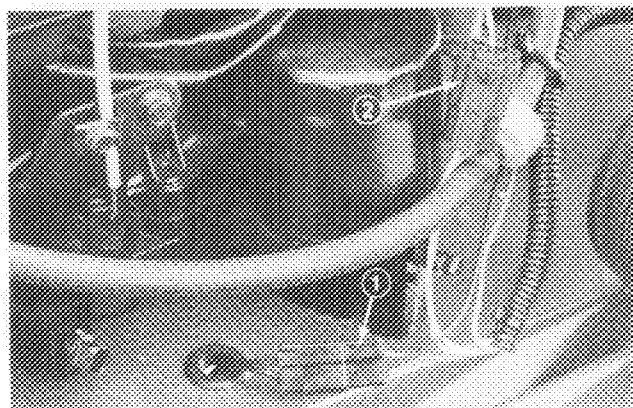

Figure 6
- 1. Secure clutch and engine in-line connectors (Fig. 6).
3. Secure wire harness to fuel line (above fuel filter) with a cable tie as shown in Fig. 6.